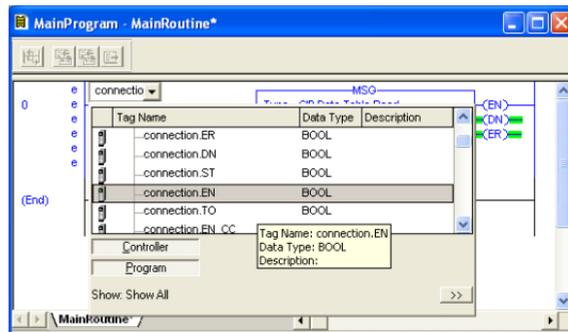

Figure 101: Configure XIO Element
- a) Double-click on the XIO element located to the left of the MSG block. In the drop-down box, double-click on the “connection.EN” field. Refer to Figure 101. This configuration causes the MSG instruction to automatically retrigger itself when it completes. While this is acceptable for the purposes of this example, it can produce high network utilization. In actual practice, it may be desirable to incorporate additional logic elements to allow triggering the MSG